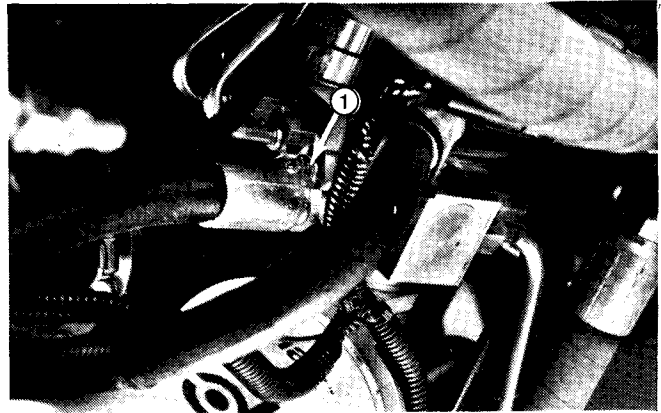

Figure 18
1. Remove the hydraulic oil temperature warning switch (Fig. 18).